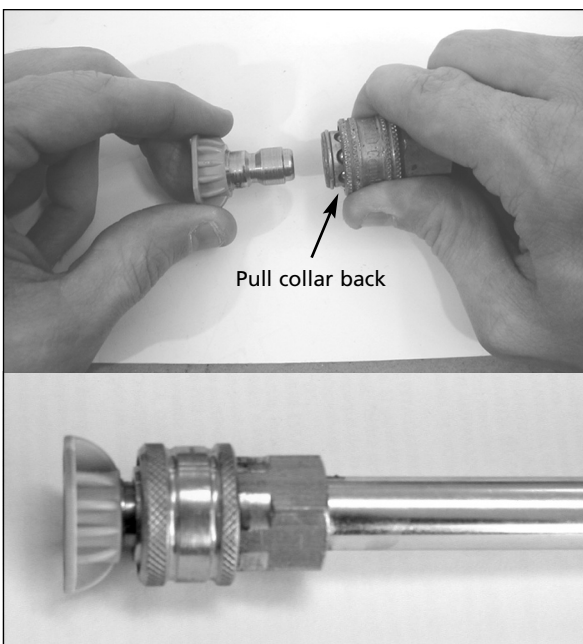

Figure 7 - Installing Quick Connect Tip
6. Install quick connect tip by pulling back on collar and pressing in tip. Release collar, make sure it completely returns to its forward position and tip is secure (see Figure 7).